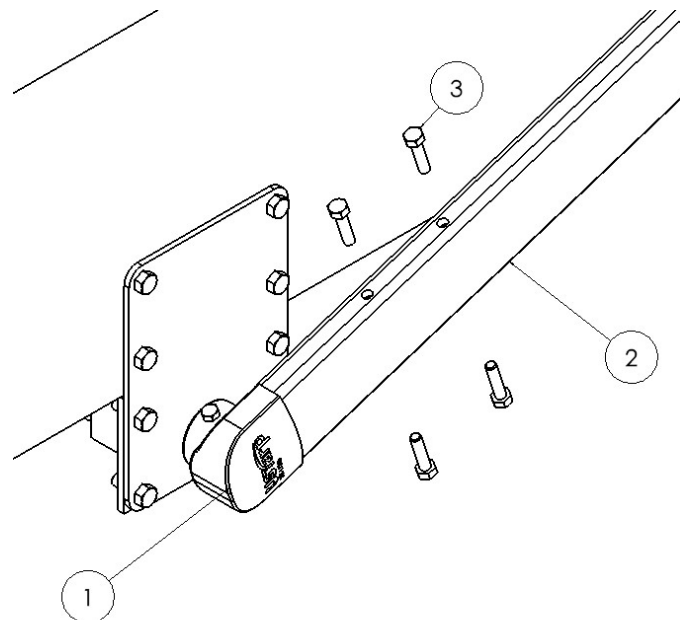

Figure 3.8
With the pivot casting (1) pointing to the rear of the dump box, slide the lower arm (2) on to the pivot casting and secure it using the supplied 5/16" x 1-1/4" hex bolts (3). (Figure 3.8)